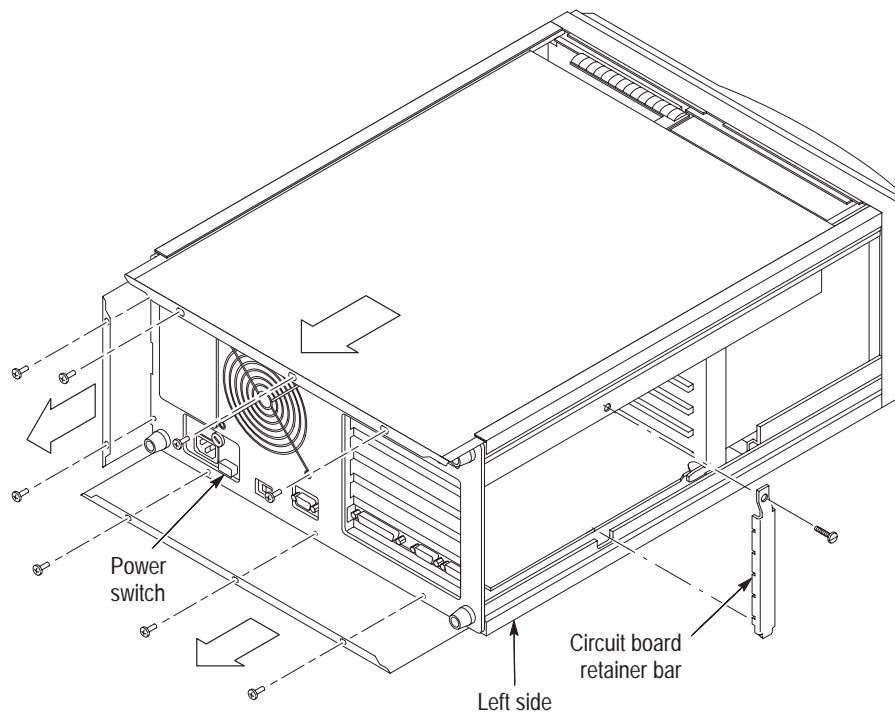

Figure 1: Cover panels and circuit board retainer bar removal
WARNING. Dangerous shock hazards may be exposed when the measurement set covers are removed. Before proceeding, ensure that both power switches are in the off position (see Figures 1 and 2), and then disconnect the measurement set from the power source.
1. Remove the screws from the edge of the cover panels. See Figure 1.
2. Remove the cover panels by sliding them carefully to the rear of the measurement set and out of the chassis grooves as shown in Figure 1.
1. Position the measurement set so that you face the right side. (See Figure 1.)
1. Reinstall the removed cover panels as shown in Figure 1 on page 12.